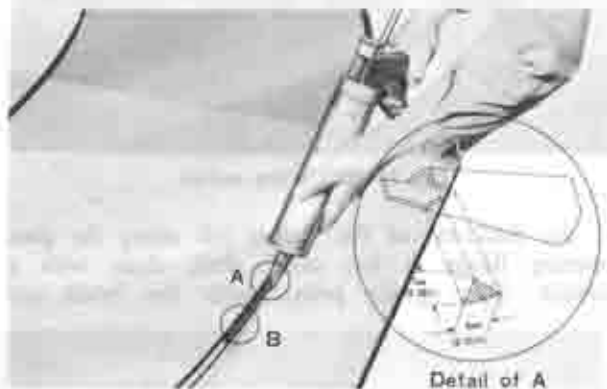

Fig. 14-30 Applying sealant
- (a) Shape the nozzle of the sealant cartridge with the cutting knife as shown in Fig. 14-30. Then, break the film of the sealant with a piece of wire and it is ready for application.